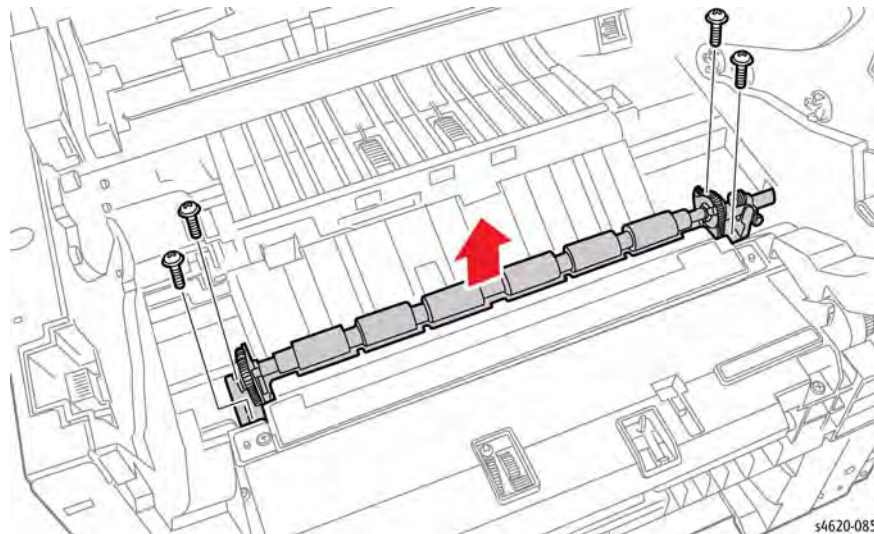

Figure 1 Remove the Registration Roller Assembly screws
9. Remove 4 screws (plastic) that secure the assembly to the frame, Figure 1.